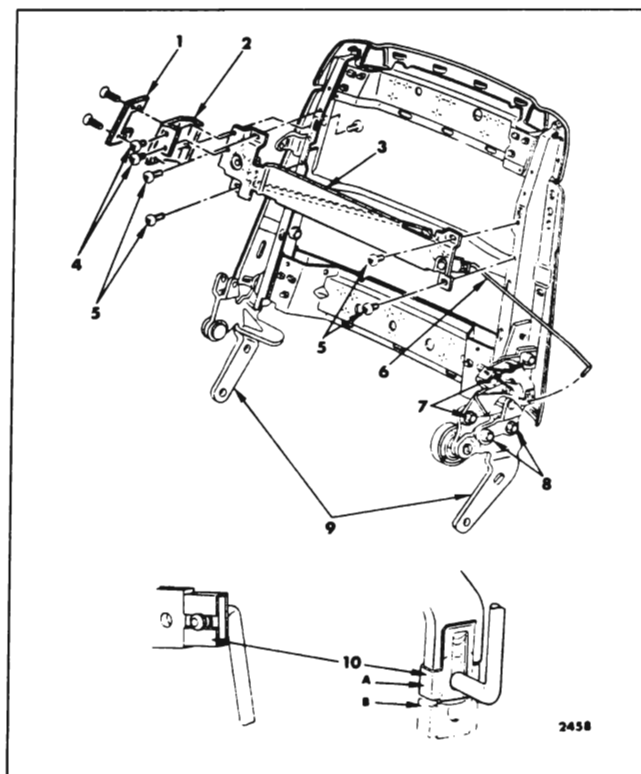

Fig. 15-39—Strato Reclining Seat Back Lock
2. At seat back inner hinge assembly remove hog rings and detach seat back trim sufficiently to gain access to seat back lock and lock striker attaching bolts (Fig. 15-39).
3. Remove seat back lock striker attaching bolts (Fig. 15-39) and remove striker.
4. Disengage clip securing lock rod to lock (Fig. 15-39) and detach rod from lock.
5. Remove lock-to-hinge attaching bolts (Fig. 15-39) and remove lock assembly from seat back hinge.
2. At right side of seat back remove hog rings and detach seat back trim sufficiently to gain access to seat back lock control support (Fig. 15-39).
3. Remove control support attaching screws (Fig. 15-39) and remove support.
3. Disengage clip securing lock rod to control assembly (Fig. 15-39) and detach rod from control assembly.
4. Remove control support and control assembly attaching screws (Fig. 15-39); then, remove control assembly from seat back.